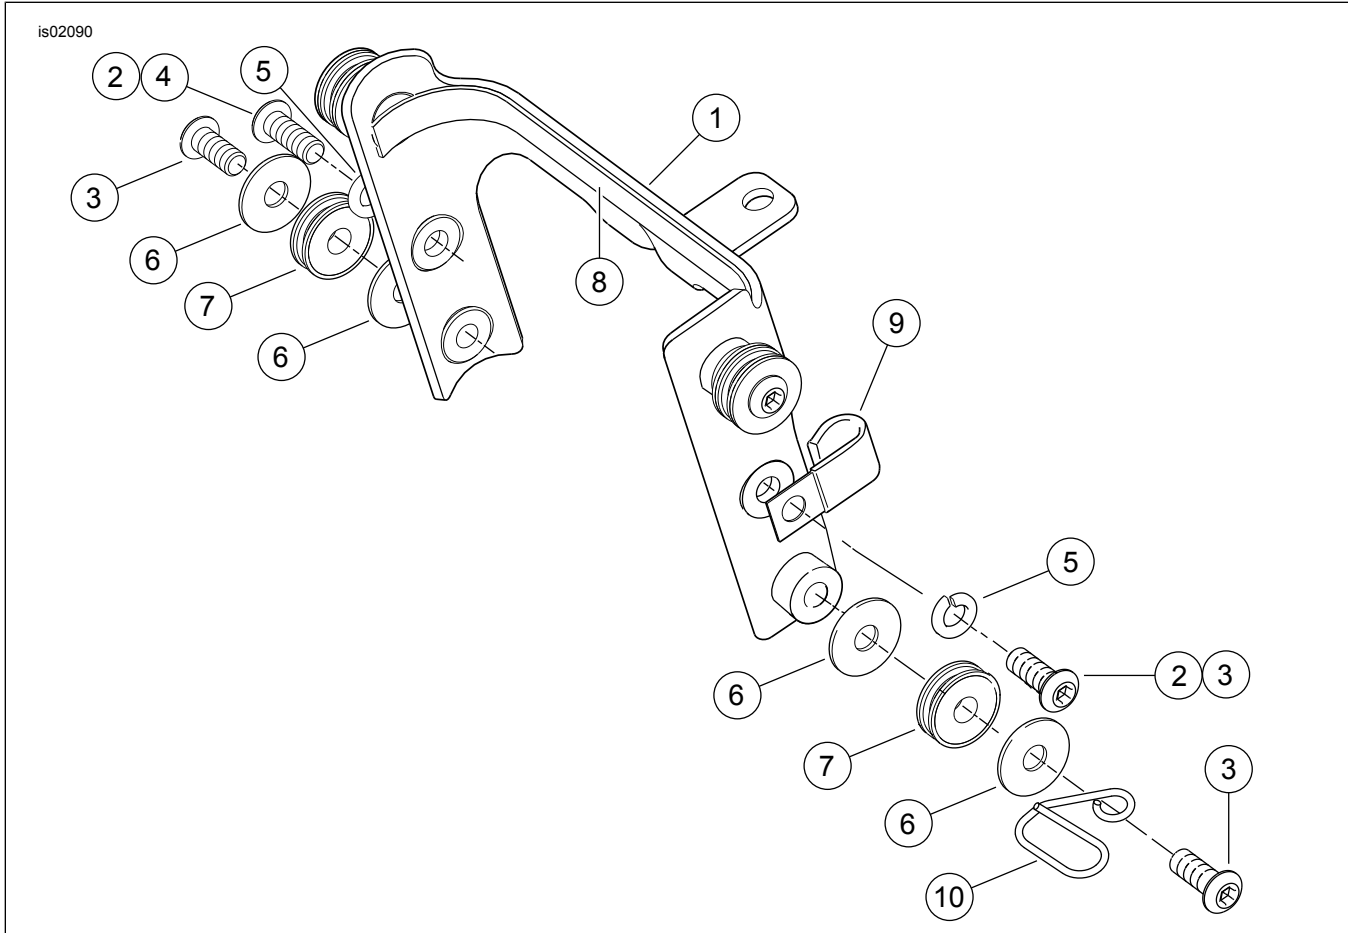
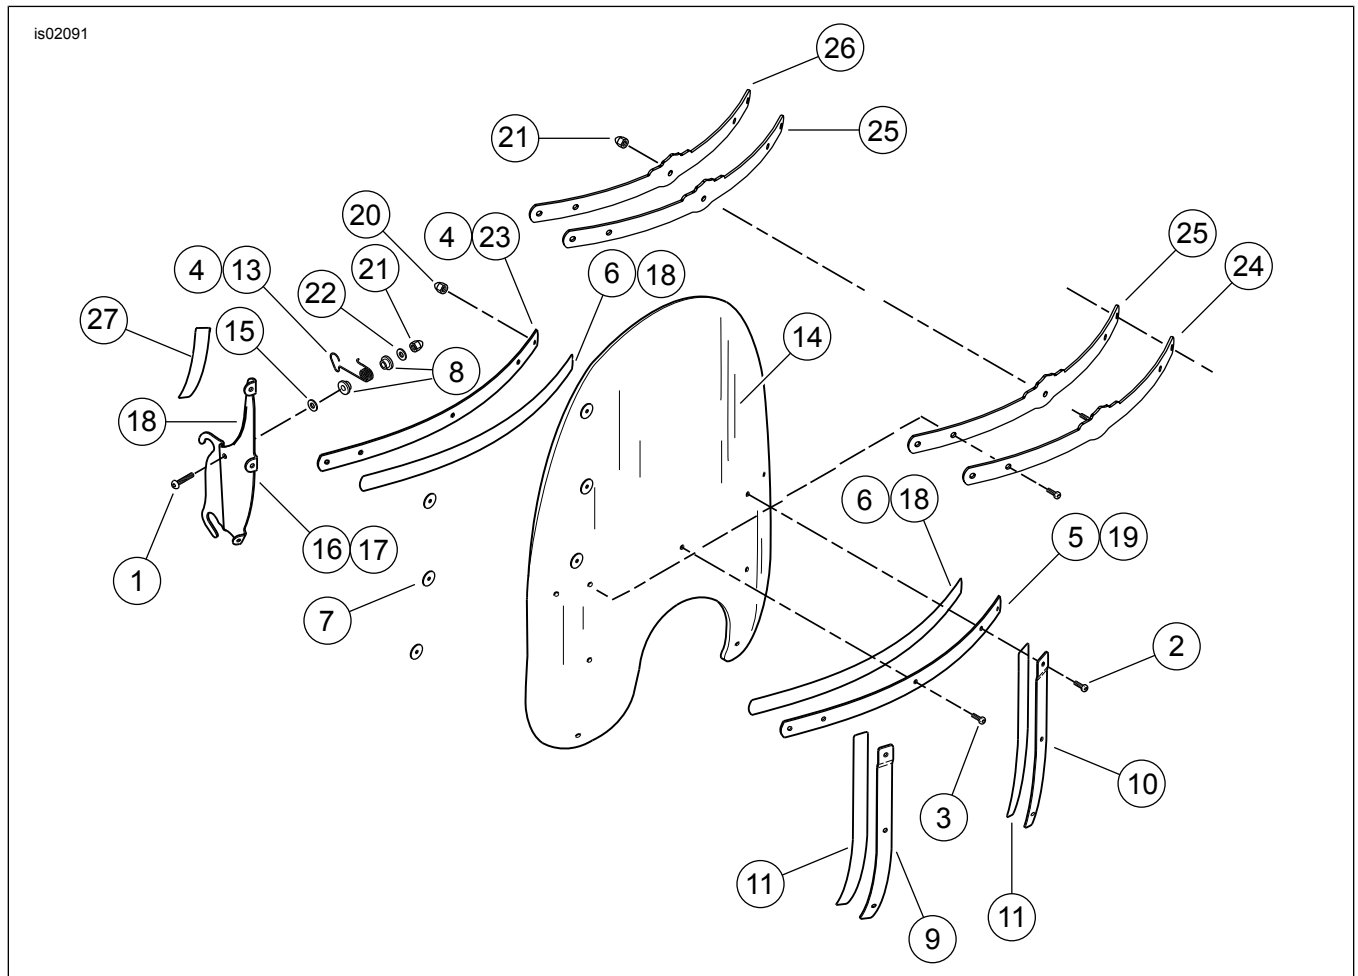

Figure 5. Detachable Windshield Bracket Kit
Figure 6. Detachable Windshield Kits
See Figure 5 and Table 2, Figure 6 and Table 3, Figure 7 and Table 4.
8. See Figure 5. Place foam tape (8) from kit along inside of chrome windshield bracket (1) as shown.